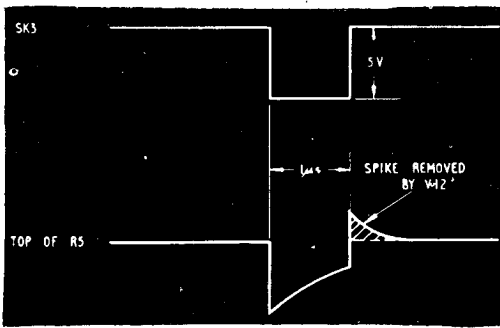

Fig. 8. Range strobe waveform
- (1) R53, 470Ω fixed.
- (2) RV8, 250 KΩ variable. A preset *drive* control.
- (3) RV4, 1 KΩ variable. A preset *dimming* control, which is normally short-circuited by relay contact F1; if, however, rotation of the aerial head stops, a line from the magstrip resolver in the radar office de-energizes relay F and brings RV4 into circuit, so dimming the trace and preventing screen burn.
28. The inclusion of R5 results in a certain degree of differentiation being applied to the incoming range strobe pulse, giving it a positive-going spike at the end of the pulse (fig. 8). If it were allowed to reach the input to V5 in this form, a large negative spike would be applied to V6 grid, resulting in paralysis of V6. Accordingly, the germanium diode V12 (CV448) is included to eliminate the positive spike.